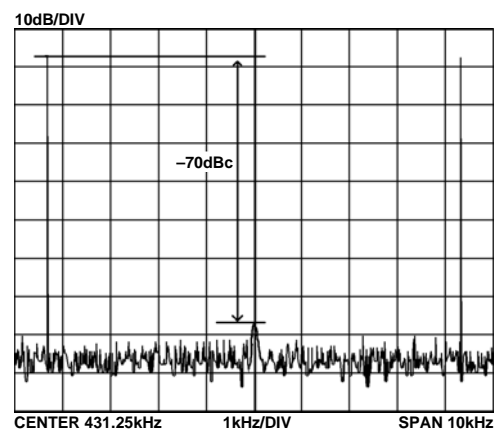

Figure 25. MTPR Measurement
Multitone power ratio is a commonly used figure of merit that xDSL designers use to help describe system performance. MTPR is the measured delta between the peak of a filled frequency bin and the harmonic products that appear in an intentionally empty frequency bin. Figure 25 illustrates this principle. The plots in Figure 10 and Figure 13 show MTPR performance in various power modes. All data were taken with a circuit with a  $k$ -factor of 0.1, a 1:1 turns ratio transformer, and a waveform with a 5.4 peak to average ratio, also known as the crest factor (CF).